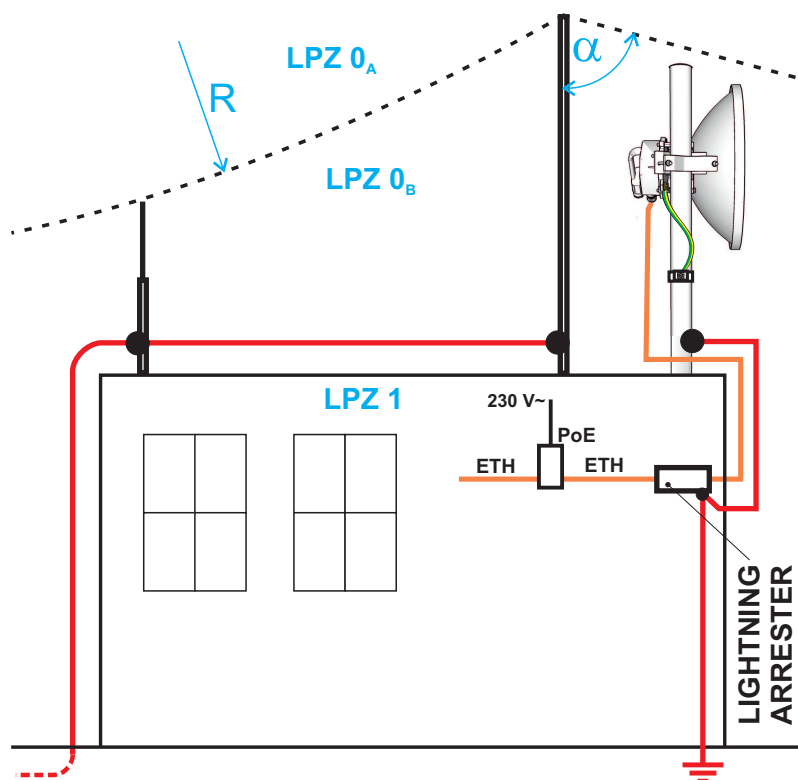
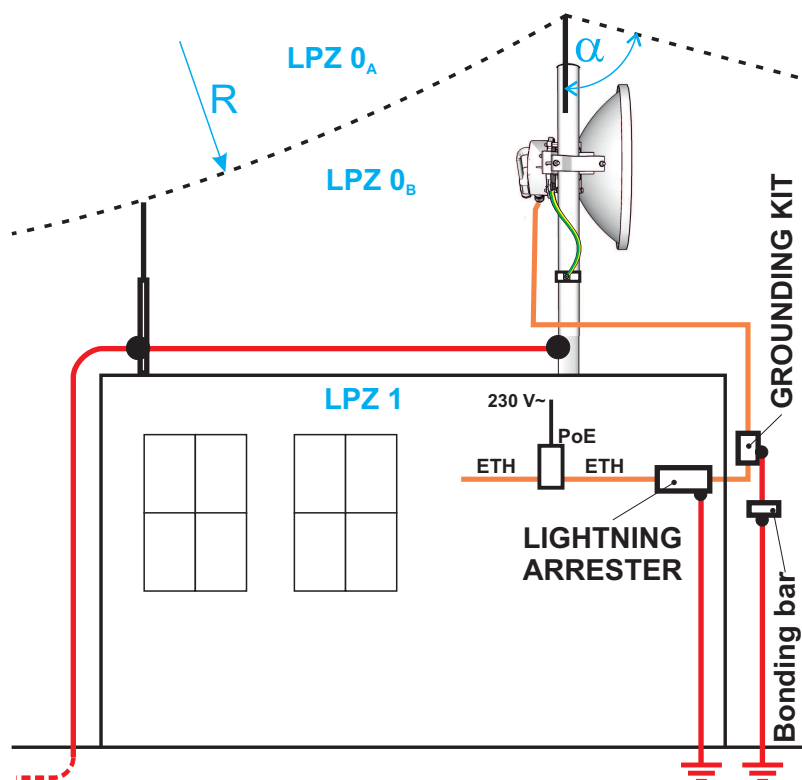

Fig. 4.19: Grounding installation 1
Fig. 4.20: Grounding installation 2
Typically the unit is grounded to the antenna mast, which has to be properly grounded (according to Fig. 4.19, “Grounding installation 1” and Fig. 4.20, “Grounding installation 2”, where unit grounding to the antenna mast is marked by yellow-green cable).
2. When meeting conditions for ensuring electrical insulation (distance from the lightning conductor) in accordance with article 6.3 of this standard, it is not recommended to ground the load-bearing structure and antenna to the external air termination network. Grounding should be attached to the protective system of the internal LV (Low Voltage) wiring or grounded internal structures using a CYA 6 mm² bonding conductor, see *Fig. 4.19 Grounding installation 1*.
3. If it is not possible to set up conditions of electrical insulation in accordance with article 6.3 of this standard, we recommend connecting the load-bearing structure at roof level to the external air termination network via an 8mm diameter FeZn conductor and shielding the data cable before entry to the building with a grounding kit and CYA 6 mm² conductor to the bonding bus, and if not already set up then also to the external air termination network, see *Fig. 4.20 Grounding installation 2*.
Overvoltage protection unit is recommended to be applied between RAY unit and PoE power supply – for details see *Section 4.5, “Grounding and overvoltage protection”* (easily visible on *Fig. 4.19, “Grounding installation 1”*).